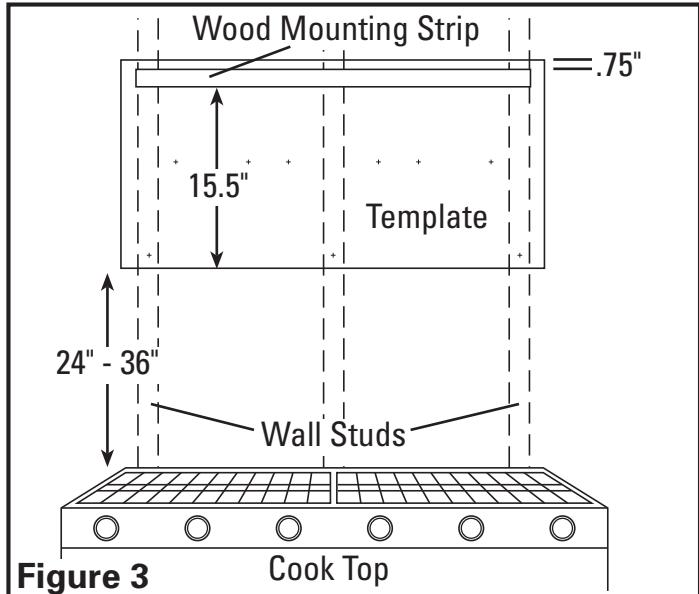

Figure 3
1. Determine where the top of the hood will be located within your installation and tape the included wall mounting template in place (**Figure 3**).